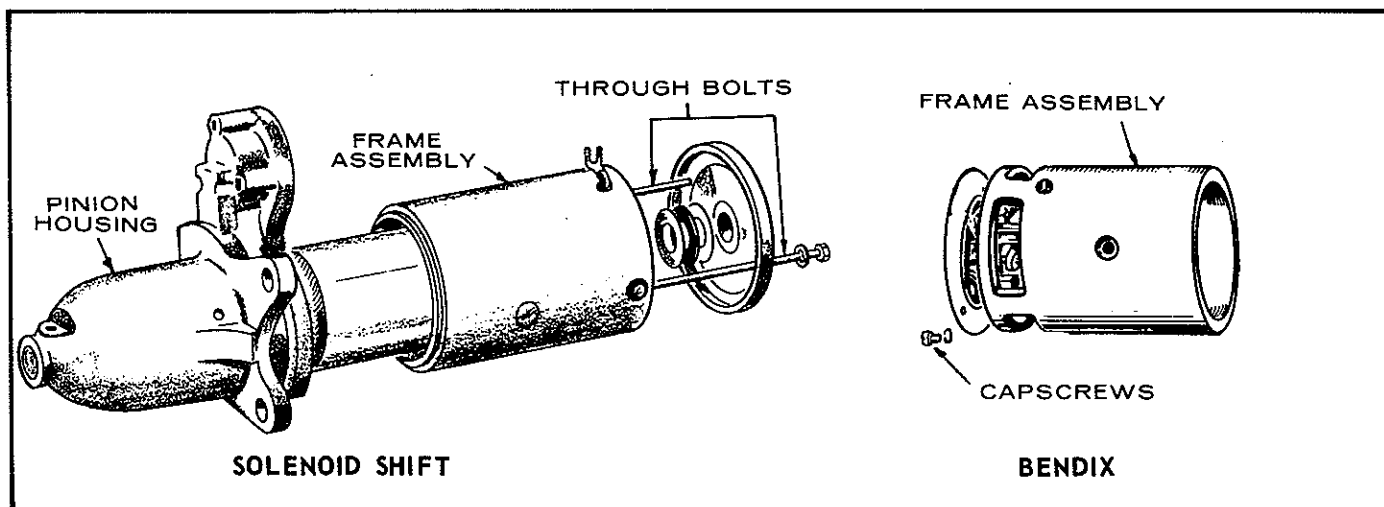

FIGURE 18-9. REMOVING THROUGH BOLTS
The solenoid spacers are mounted with the steel spacer toward the bracket (Figure 18-9).
3. Remove the starter motor thru-bolts and divide the starter into three main assemblies—the front bracket, the housing and the rear bracket. Some bendix model starters use short screws to hold the three starter sections together (Figure 18-9). The spacing washers shown on the solenoid starter in Figure 18-9 are used for adjustment of the thrust gap of the armature shaft and are located between the rear bracket and the commutator shaft.